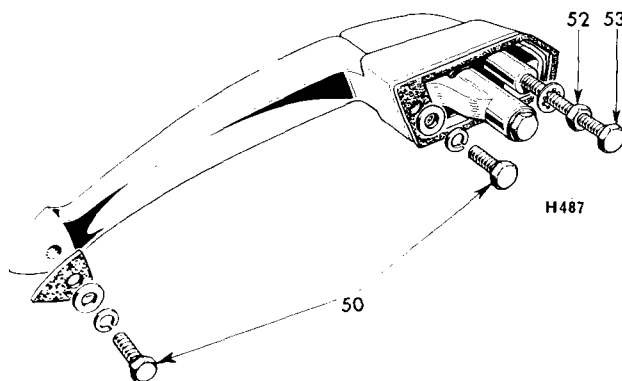

Fig. 40. Push button adjustment (Spitfire Mk. 2 and 3)
1. **To Remove** (Fig. 40)
- (b) Loosely refit the regulator handle and raise the glass to the fully closed position. Release the handle by unscrewing two screws (50) and washers located on the inside of the door panel.
- (b) Release the lock nut (52) and screw the bolt (53) in or out as required; finally retighten the lock nut.